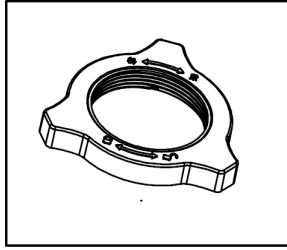

Figure 2
2.Remove the chassis lock nut from the machine body. (as shown in Figure 2)